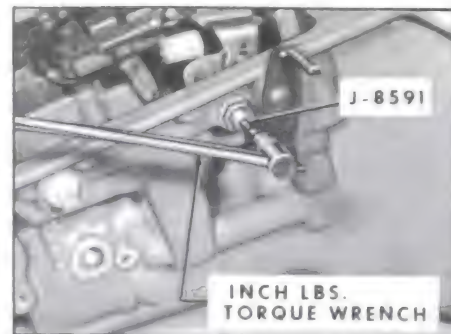

Figure 5-330
1. Adjust low band by first tightening adjusting screw to 40 in. lbs. torque. See Figure 5-330.